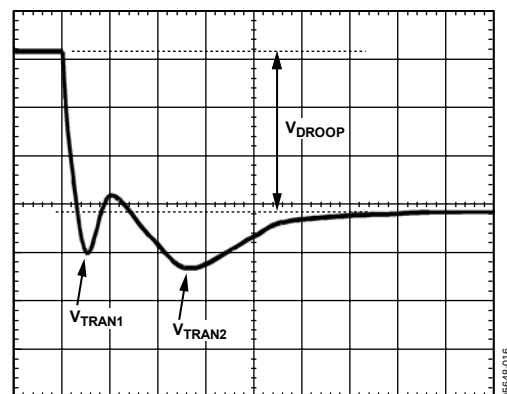
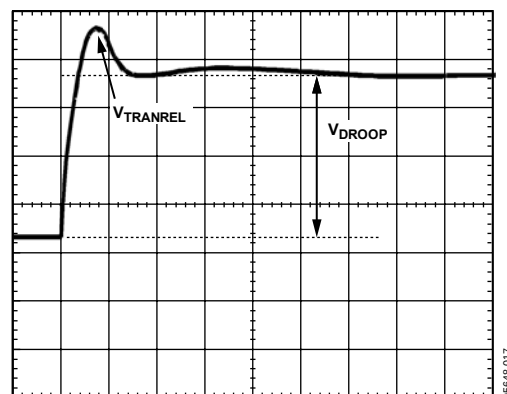

Figure 15. Transient Setting Waveform
Figure 16. Transient Setting Waveform
18. With the dynamic load still set at the maximum step size, expand the scope time scale to see 2 μ s/div to 5 μ s/div. The waveform may have two overshoots and one minor undershoot (see Figure 15). Here, V_{DROOP} is the final desired value.
20. For load release (see Figure 16), if $V_{TRANREL}$ is larger than V_{TRAN1} (see Figure 15), there is not enough output capacitance. Either more capacitance is needed or the inductor values need to be smaller. If inductors are changed, start the design again using the spreadsheet and this tuning procedure.